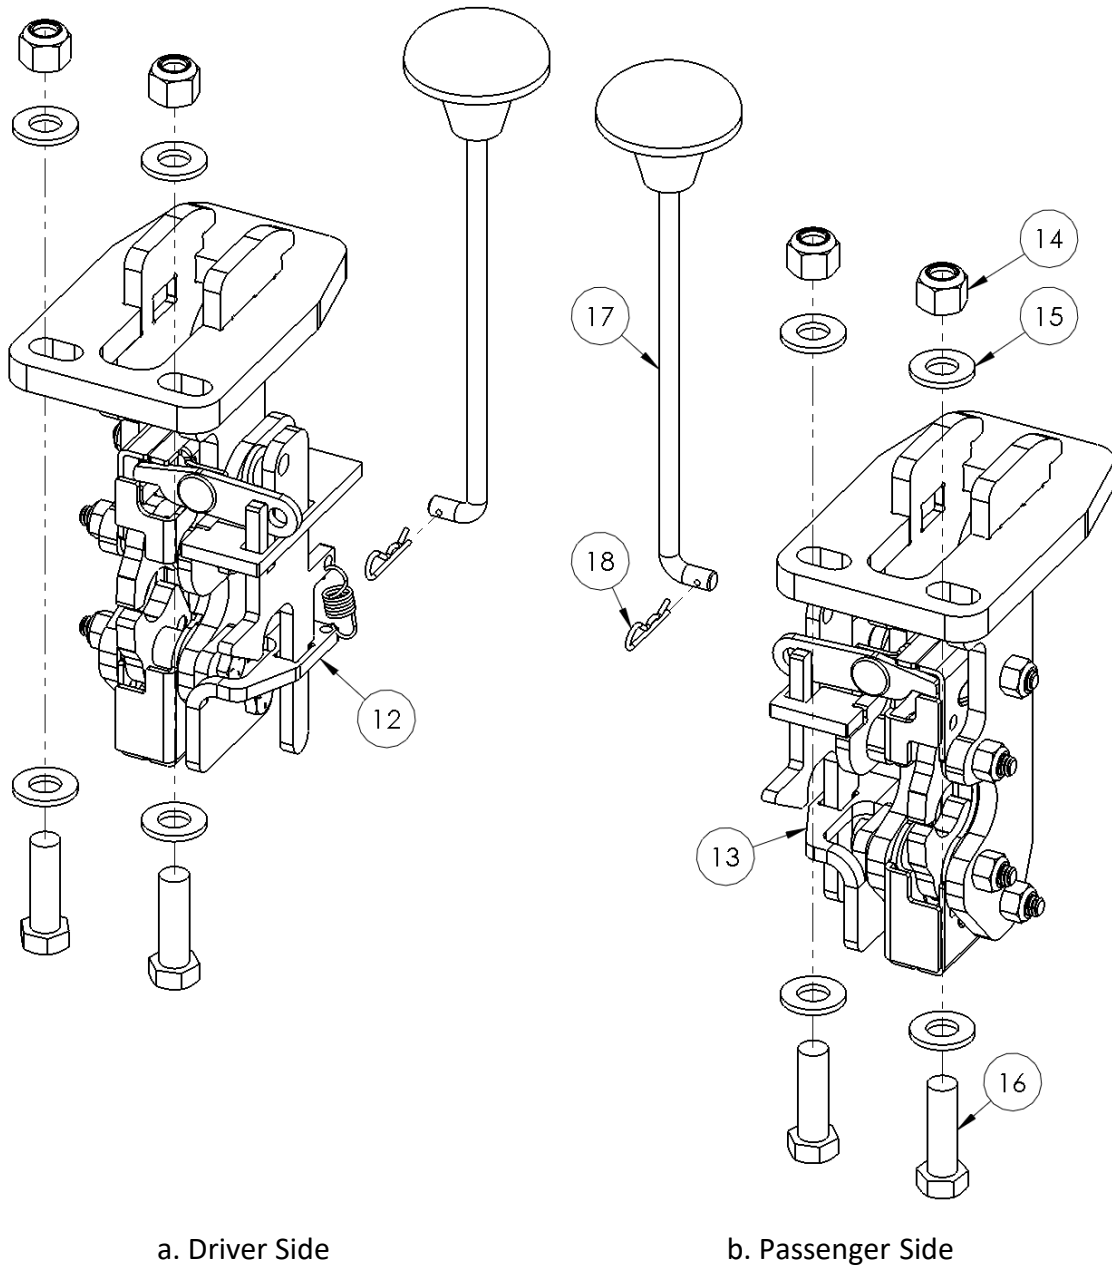

Figure 2 - Parts and hardware included for Tall Latch kit 404006.
7. If you have a **Type A or B** gusset with a **Tall Latch** shown in figures 2 and 9 (Passenger Side shown):
- Assemble the new latch (items 12 and 13) to the grill guard by sliding the latch through the cutout.
- Secure the fasteners (items 15, 16) using standard nuts (item 14).
- Connect the knob (item 17) to the latch using the hairpin (item 18).